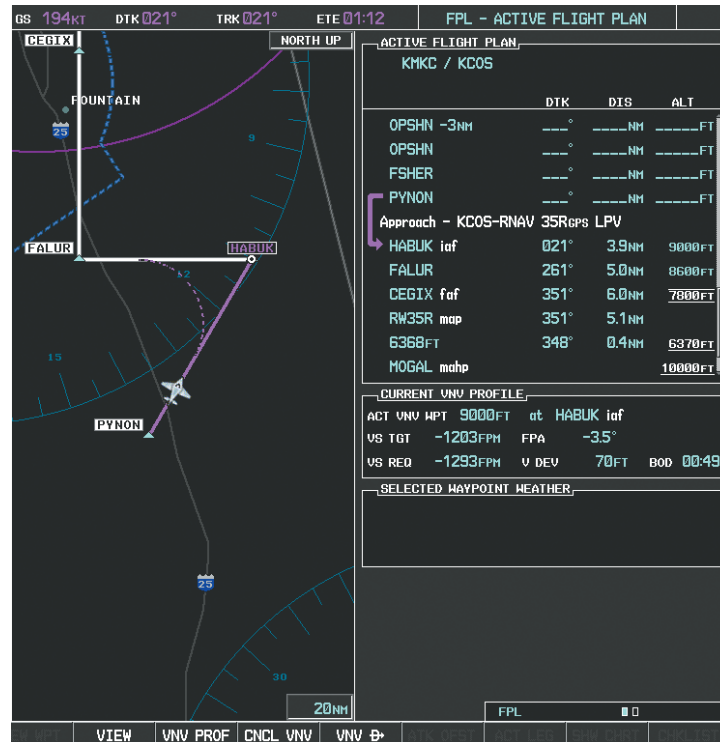

Figure 5-139 Approach is Now Active
- 21) Upon passing PYNON the approach procedure automatically becomes active. The approach may be activated at any point to proceed directly to the IAF. In this example, the aircraft has progressed through the final waypoint of the arrival and the flight plan has automatically sequenced to the IAF as the active leg, activating the approach procedure (see Figure 5-139).